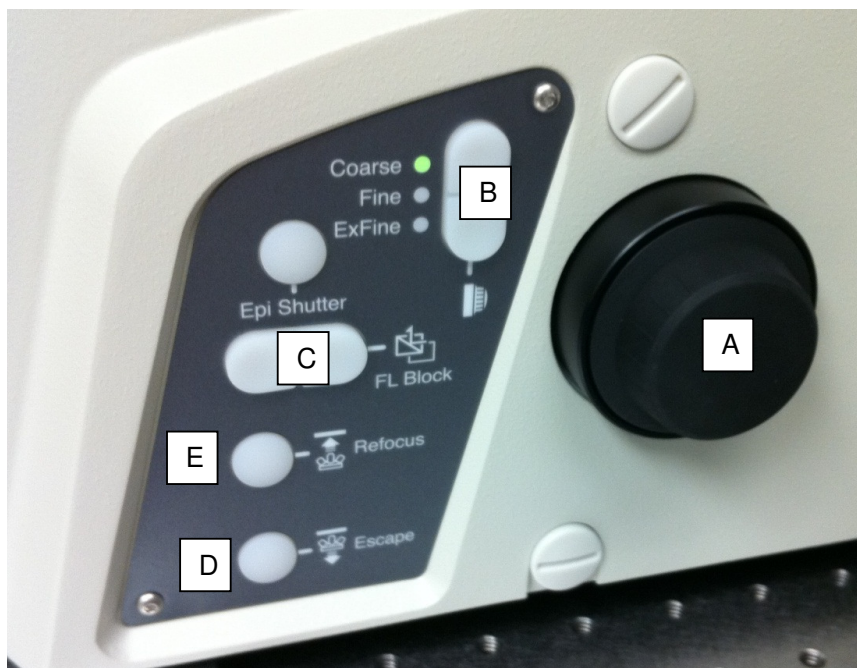

Figure 10. Controls on the right side of the microscope.
5.5.6 Controls on the right side of the microscope (Figure 10).
Make sure to turn on the Intensilight fluorescence light source (Figure 16). Place your sample on the stage and choose an objective. Select "EYE" from front panel (Figure 6, this is the default setting on startup). On the right microscope panel (Figure 10), rotate "FL Block" to desired fluorescent filter. Open the fluorescent shutter on the remote control for the Intensilight arc lamp (Figure 8).